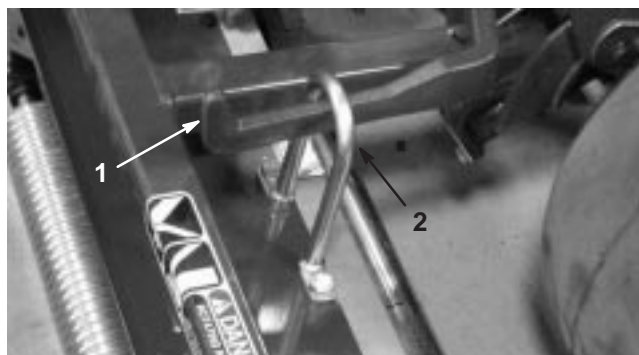

Figure 11
3. Slide the cutting unit under the pull frame while hooking the lift hook onto the lift arm (Fig. 11).